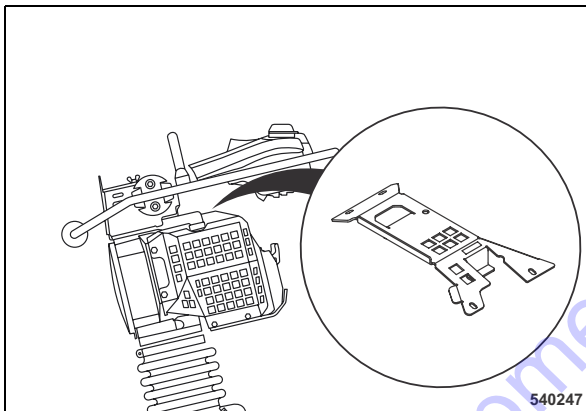

Fig. 43
- Remove the top engine cover (Fig. 43).